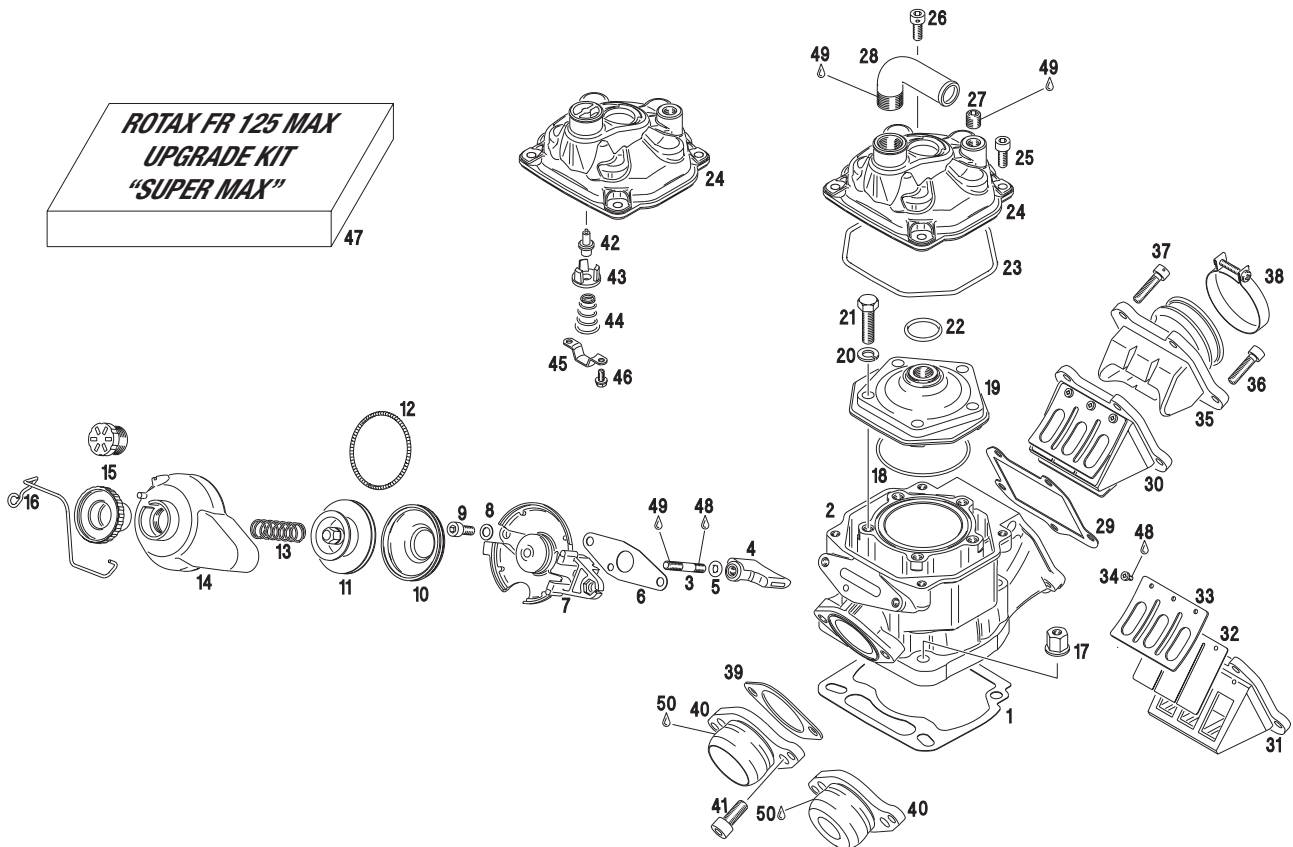

Fig. 17
- ◆ **Note:** In the basic setting, the adjustment screw (item 15) is turned in so far that it is flush with the valve cover (item 14, fig. 17). This setting is in most cases the best.
- ◆ **Note:** If your engine is already equipped with the new adjustment screw (item 15) for easier adjustment the basic setting is a distance of 5 mm / 0,2 in between the collar of the adjustment screw and the valve cover.
- ◆ **Note:** If the exhaust valve should open before 7500 r.p.m. the opening time of the exhaust valve can be shifted to a slightly higher engine speed by turning the adjustment screw (item 15) further in.
- ◆ **Note:** If the exhaust valve does not open until the engine speed of 7500 r.p.m. has been reached, the opening time can be adjusted to a slightly lower speed by turning adjustment screw (item 15) outwards.